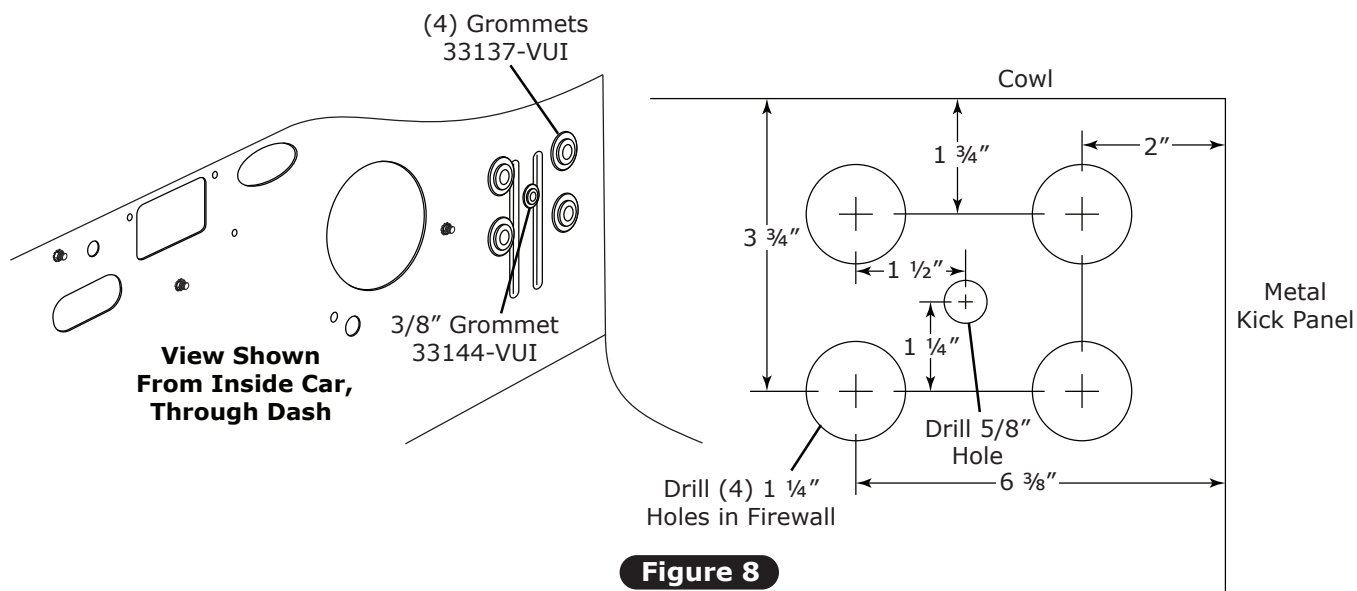

Figure 8
1. Drill (4) 1 1/4" holes in firewall using measurements in Figure 8, below.
2. Drill 5/8" hole in firewall (See Figure 8, below).
3. Install grommets in firewall (See Figure 8, below).